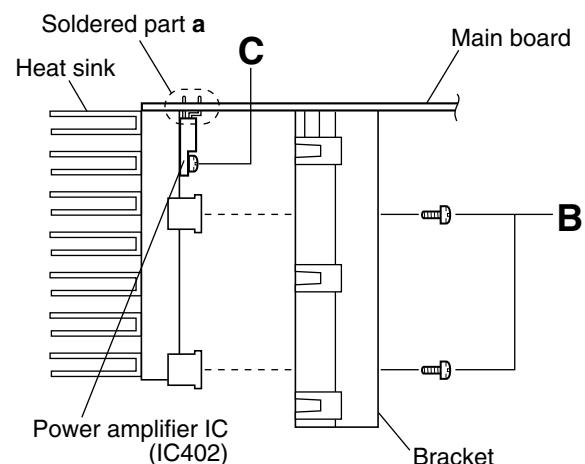

Fig.3
(See Fig.3.)
3. Remove the screw **C** attaching the power amplifier IC onto the heat sink. (See Fig.3.)
4. In order to replace the power amplifier IC, remove the solder from the soldered part **a** on the reverse side of the main board. (See Fig.3.)